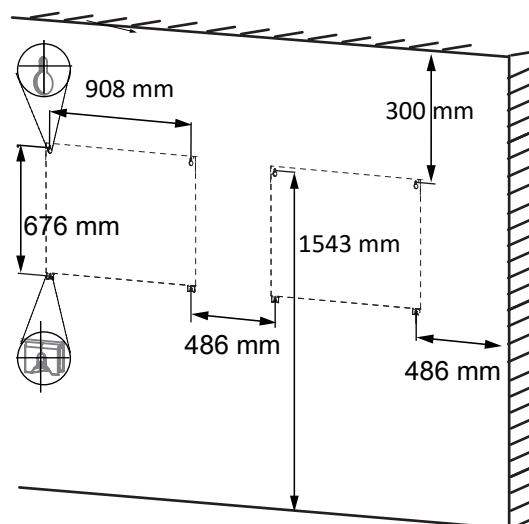

Fig. 19: Minimum clearances for wall mounting
- Minimum clearances to be observed during installation: [See figure 19 [► Page 18]]
3. If necessary, adjust the position and height according to [See figure 19
2. Without a drilling template: Mark the mounting position accurately (+/- 1mm) on the wall surface using the specified distances. [See figure 19 ▶ Page 18]